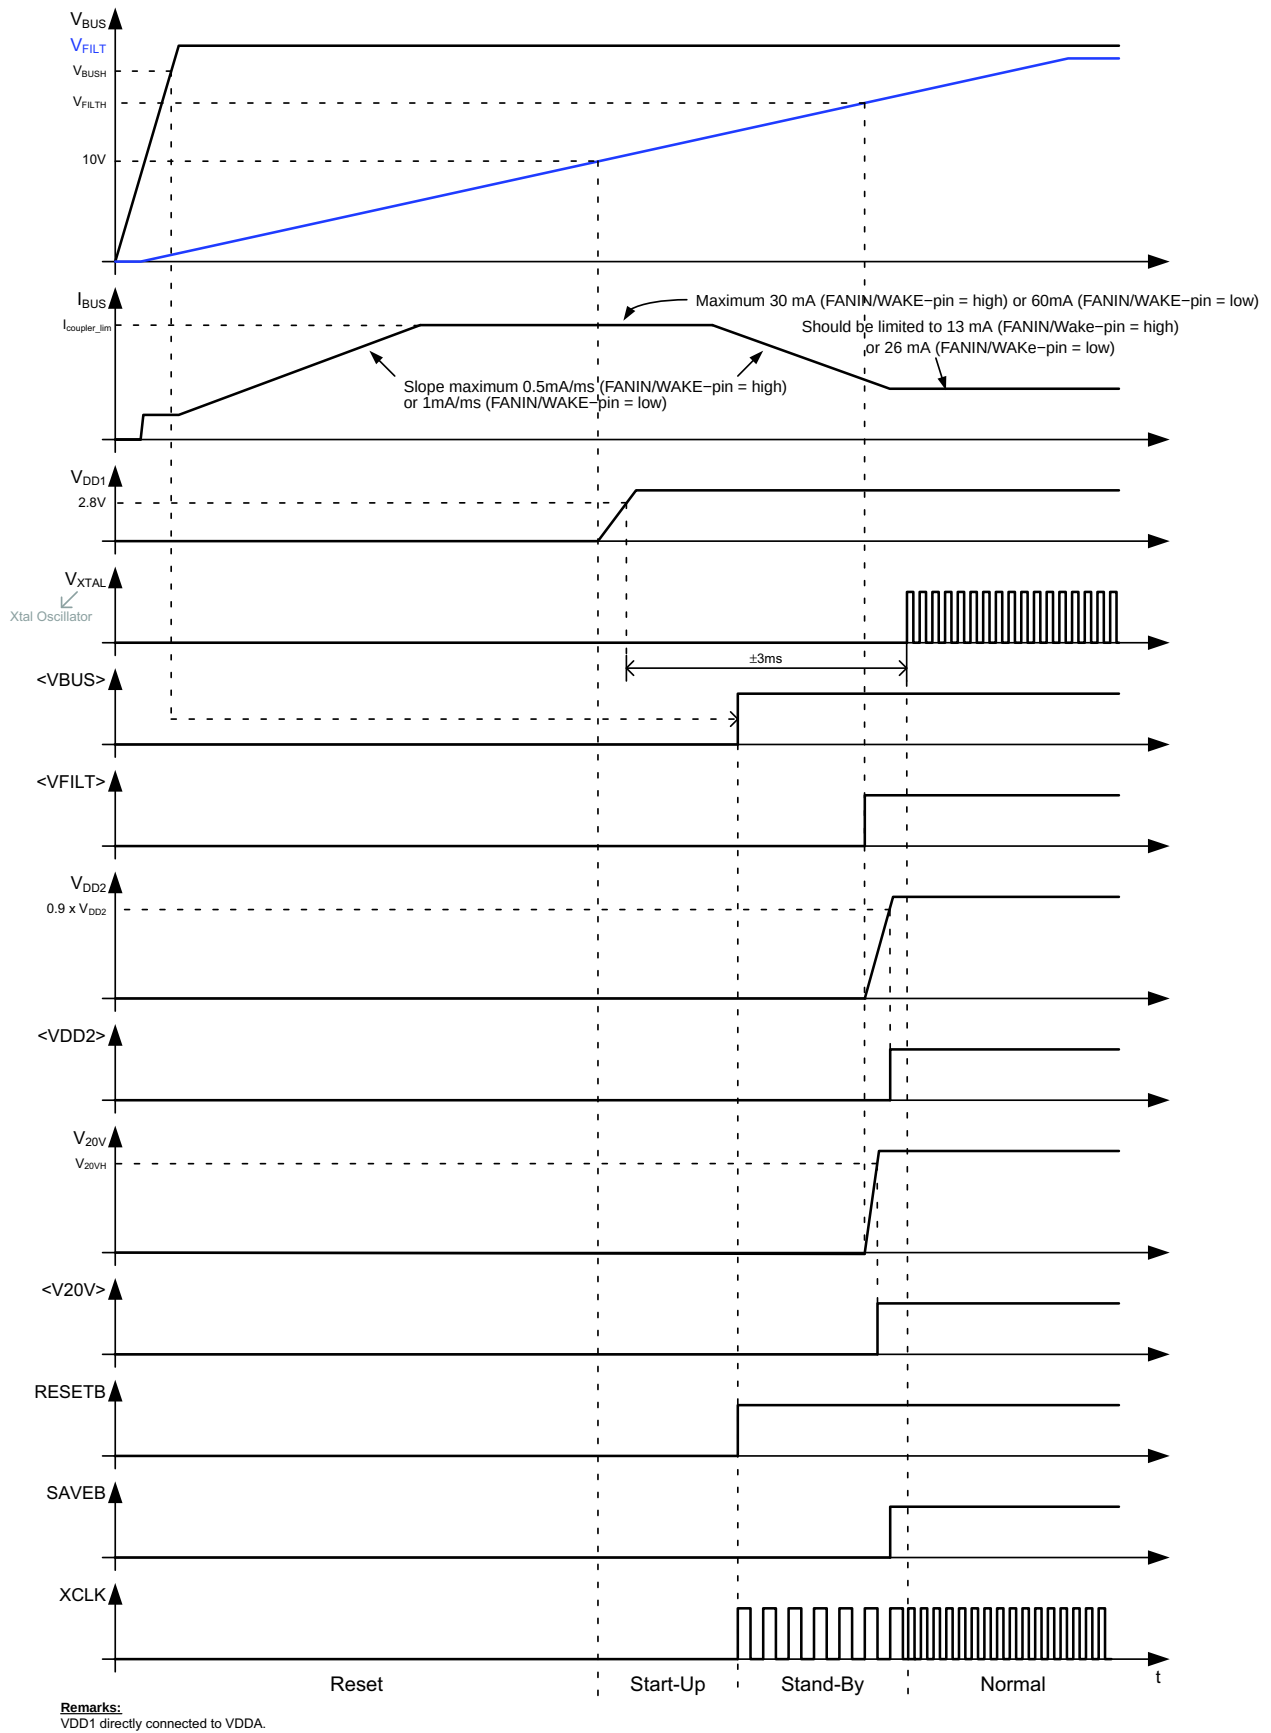

Figure 21. Start-Up Behavior
After power-up, a 4 MHz (Note 3) clock signal will be present on the XCLK-pin during Stand-By. When Normal State is entered, a 8 or 16 MHz clock signal will be present on the XCLK-pin. See also Figure 21.
Figure 21 gives a detailed view on the start-up behavior of NCN5120. After applying the bus voltage, the filter capacitor starts to charge. During this Reset State, the current drawn from the bus is limited to $I_{coupler}$ (for details see the KNX Standards). Once the voltage on the filter capacitor reaches 10 V (typ.), the fixed DC-DC converter (powering VDDA) will be enabled and the device enters the Start-Up State. When V_{DD1} gets above 2.8 V (typ.), the OTP memory is read out to trim some analog parameters (OTP memory is not accessible by the user). When done, the Stand-By State is entered and the RESETB-pin is made high. If at this moment V_{BUS} is above V_{BUSH} , the VBUS-bit will be set (<VBUS>, see System Status Service, p34). After approx. 2 ms the Xtal oscillator will start. When V_{FILT} is above V_{FILTH} DC2 and V20V will be started. When the Xtal oscillator has started, no Thermal Warning (TW) or Thermal Shutdown (TSD) was detected and the VBUS-, VFILT-, VDD2- and V20V-bits are set, the Normal State will be entered and SAVEB-pin will go high.